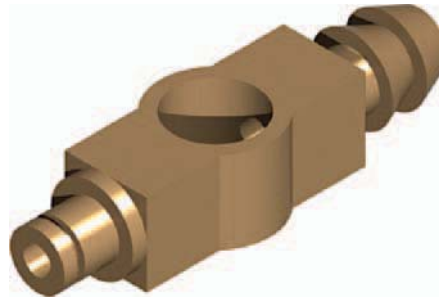

Fig. 18.18 Second example – 3D models
### Second example (Fig. 18.18)
5. **Isometric.** Render (Fig. 18.18).